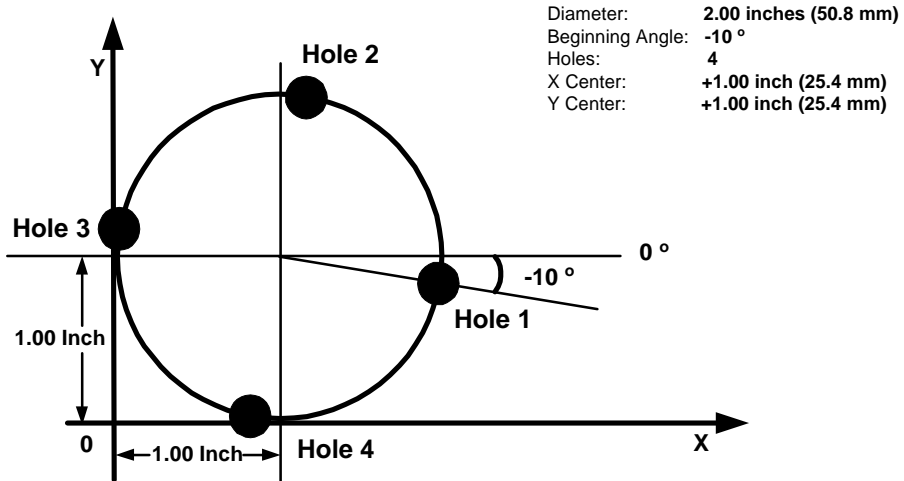

Figure 3: Full Bolt-Hole Pattern
- Full Pattern In a full pattern, the holes cover the entire circumference of the circle. (See Figure 3)